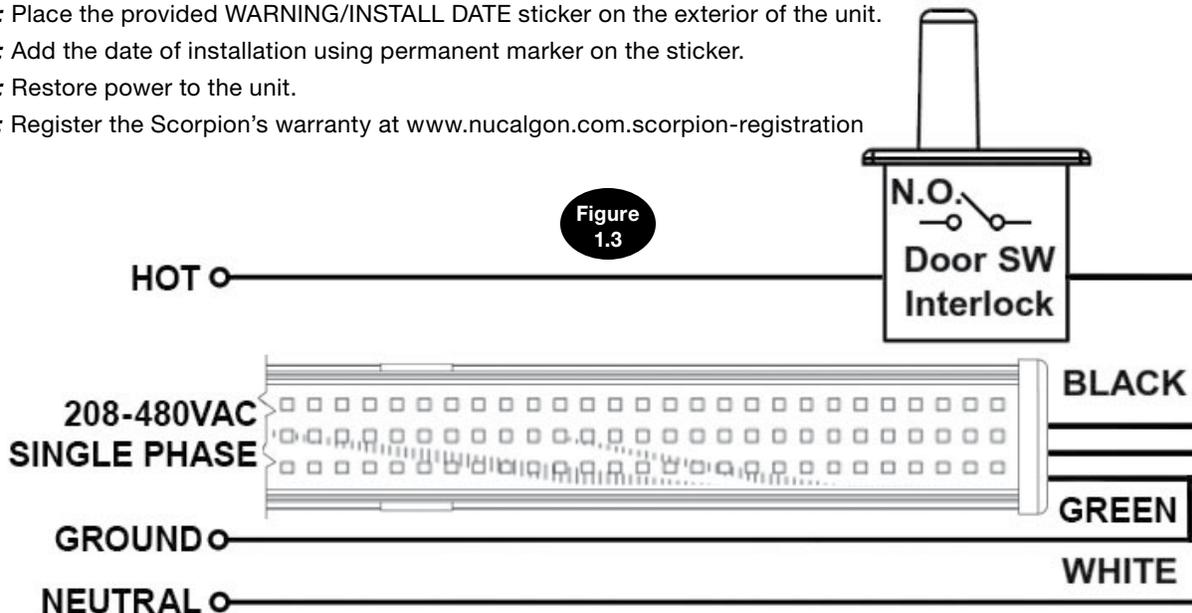

Figure 1.3
STEP 1: Connect the Scorpion to high voltage 208-480VAC power using the white (neutral) and black (hot) wires. Connect the green (ground) wire to a proper ground source. See figure 1.3 below.
Step 1B: For safety, ensure the black (hot) wire is wired through the unit's door interlock switch as shown in Figure 1.3. This will ensure the CX30 does not power on when the door is opened and the safety switch is engaged.